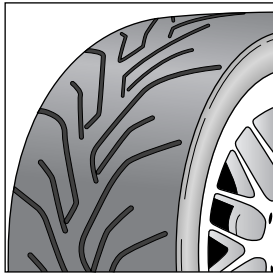

Figure 5-4:
- ✔ Yokohama Advan A048 (see Figure 5-4)